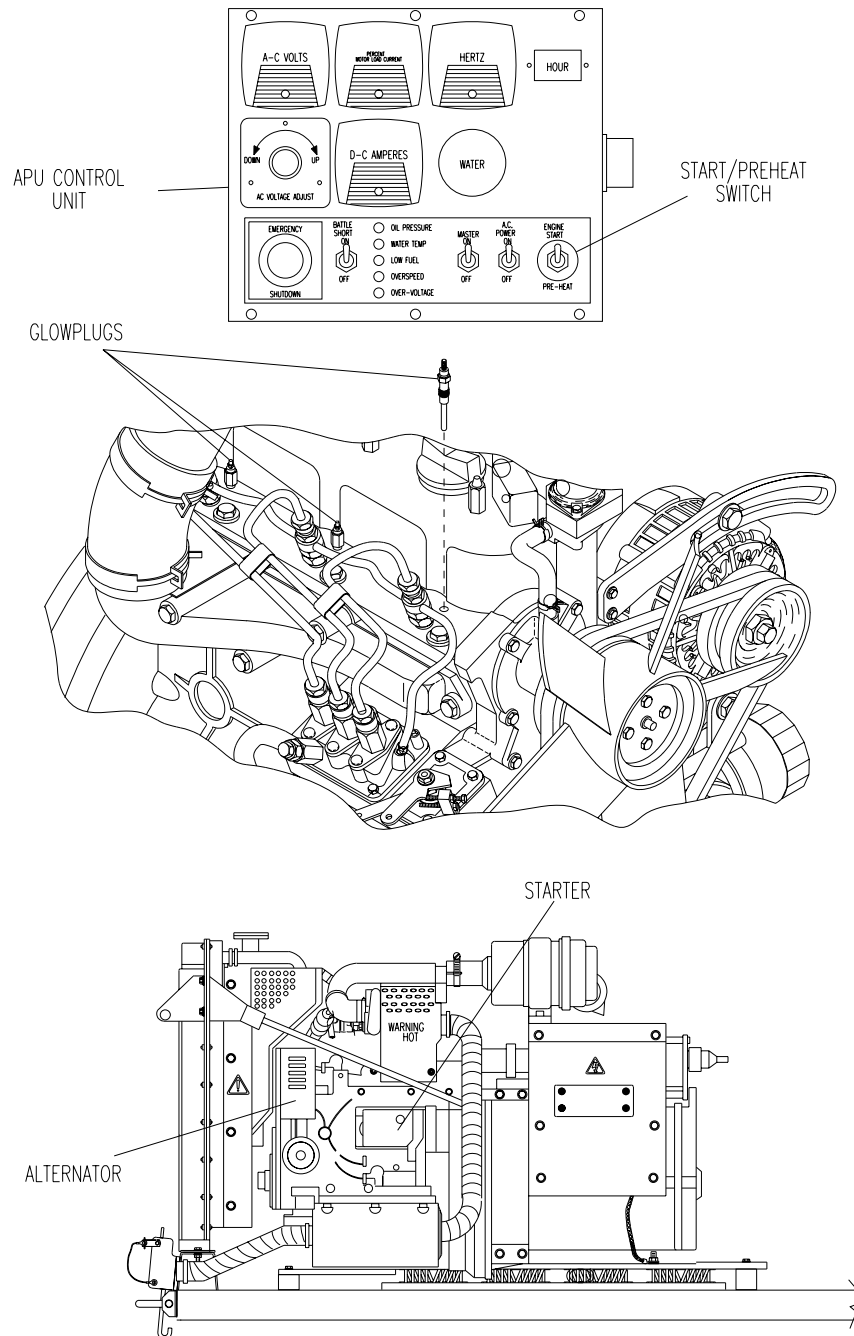

Figure 1-8. Electrical System
1.16.6. Electrical System. The engine's electrical system (Figure 1-8) consists of a starter system (including an electromagnetic drive type starter and glow plugs) and a charging system (including the AC alternator and regulator). The PREHEAT/START switch on the APU controller starts the engine. In the PREHEAT position, current from the vehicle battery is supplied to the glow plugs in each combustion chamber ensuring easy start-up. In the START position, current is supplied to the starter. The alternator is an 8-8 rotating magnet AC generator. The regulator performs rectification and voltage regulation. It converts alternator AC output to DC which flows through the power consuming circuits. DC is also fed back to the vehicle to charge the vehicle battery when the vehicle engine is not running. If the DC voltage is excessive, the DC current is cut off from the charging circuit to prevent overcharging.